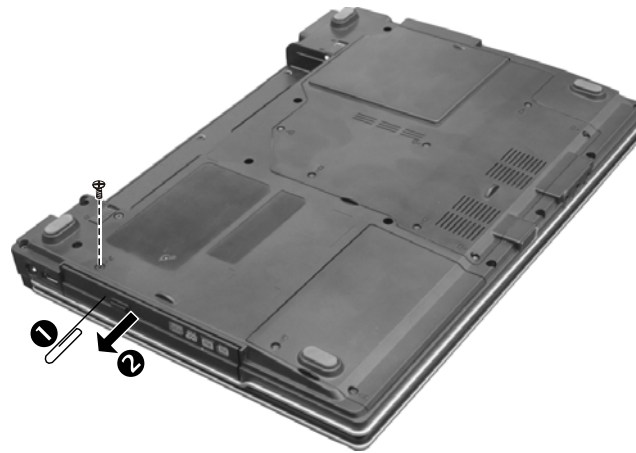

Figure 2-11 Remove the CD/DVD-ROM drive
2. Remove the one screw fastening the DVD-ROM drive. (Figure 2-11)
3. Insert a small rod, such as a straightened paper clip, into DVD-ROM drive's manual eject hole (❶) and push firmly to release the tray. Then gently pull out the DVD-ROM drive by holding the tray that pops out (❷). (Figure 2-11)